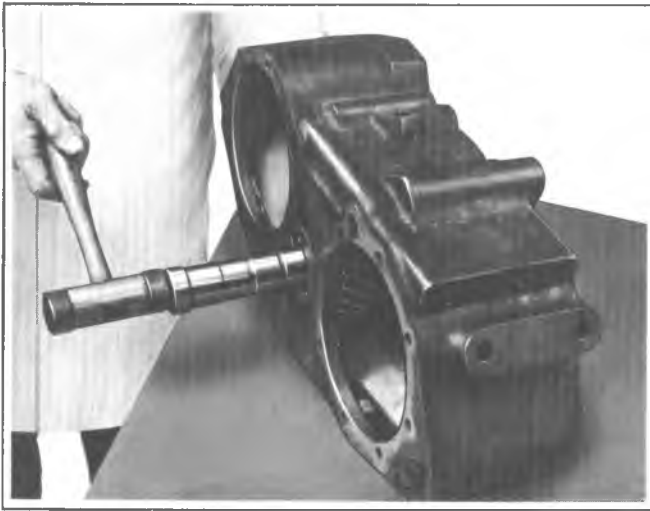

Fig. 7D-13R--Installing Idler Shaft
2. Assemble the two bearing cones, spacer, shims and idler gear on dummy shaft J-23429 with bore up. Check end play (Fig. 7D-11R). Limits are .001 to .002 inch.
3. Install idler gear assembly with dummy shaft into case through front output bore, large end first (Fig. 7D-12R).
4. Install idler shaft from large bore side and drive through using a soft hammer (Fig. 7D-13R).